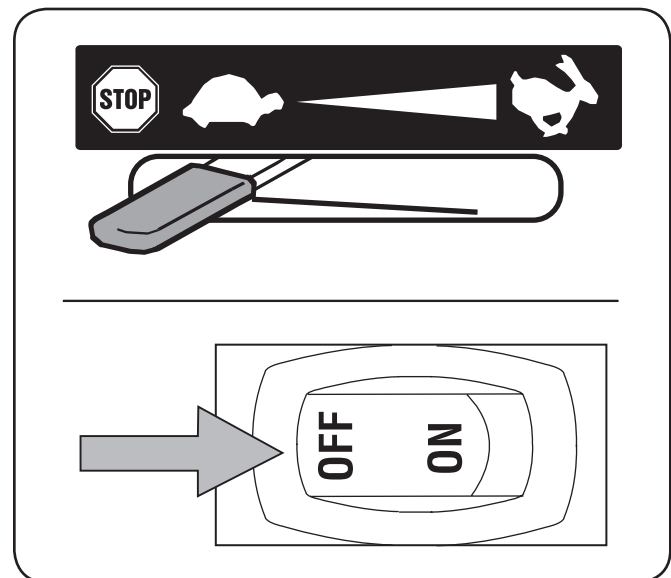

Figure 5-2
1. Move throttle control lever to STOP position (if equipped) or push rocker switch to OFF. See Fig. 5-2.